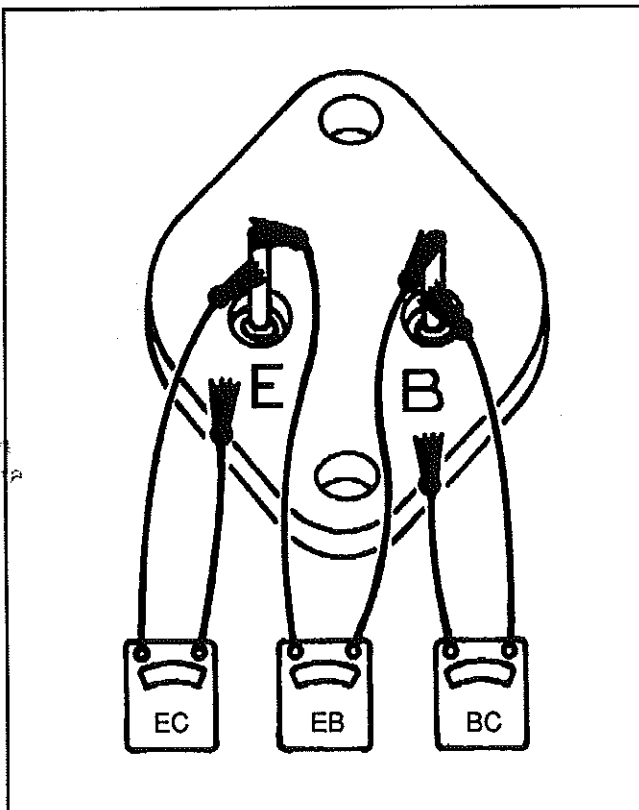

Fig. 35 - Checking transistors TR1
B) By removing any retaining screws involved and unsoldering the connections. When resoldering, limit solder time to a minimum as excessive heat may damage the printed circuit and component parts. However, good soldered connections are essential for satisfactory operation. A resin core 63% tin 37% lead solder with a 360 °F (182 °C) melting point is recommended along with a soldering iron rated at 50 watts or less. Use extreme care to avoid overheating. Before checking the printed circuit board, remove transistor TR1, which must be checked separately. Connect the ohmmeter as shown in figure 35, and then reverse the ohmmeter leads to obtain two readings on the same component. Use the middle scale on scale-type meters where the 300 ohm value should be within, or nearly within, the middle third of scale.
Transistor TR1 = See figure 35. Use the low scale. Each of the three checks should read low and high. If not replace TR1.